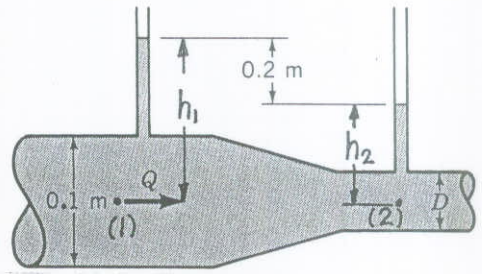

FIGURE P3.52
3.52 Water flows through the pipe contraction shown in Fig. P3.52. For the given 0.2-m difference in the manometer level, determine the flowrate as a function of the diameter of the small pipe,  $D$ .